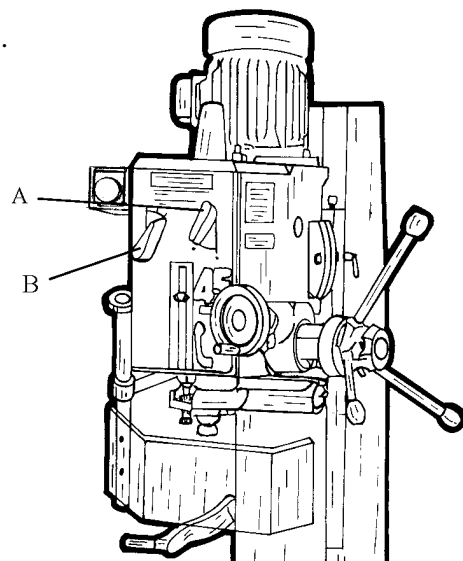

Fig.4
- (1) When milling longitudinal feed, it is advisable to lock the cross feed table travel to insure the accuracy of your work. To do this, tighten the small leaf screw located on the right side of the table base.
- (2) To tighten the longitudinal feed travel of the table for cross feed milling, tighten the two small leaf screw on the front of the table base
- (3) Adjustable travel stops are provided on the front of the table for control of cross travel and the desired milling length.
9. SPEED CHANGING (See Fig. 4)
Loosen the arbor bolt (see fig. 4) at the top of the spindle shaft approximately 2 turns with a wrench. Rap the top of the arbor bolt with a mallet. After taper has been broken loose, holding chuck arbor on hand and turn detach the arbor bolt with the other hand.